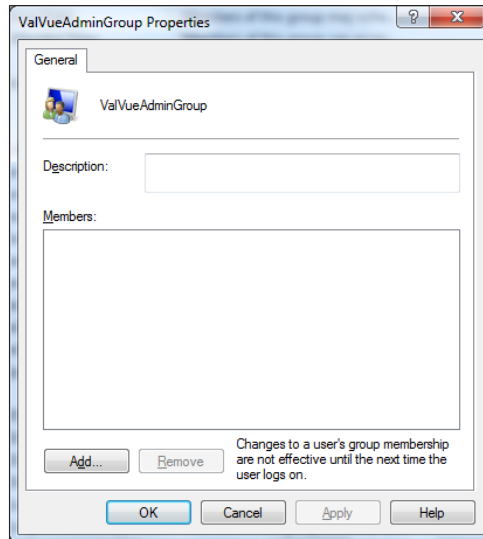

Figure 163 - Properties
3. Double-click **ValVueAdminGroup** and *Properties* appears (Figure 163).
5. Enter the windows login user name (use SSO, if a Baker Hughes employee). Click **Check Names**, if the user is located correctly, Click **OK**. Figure 163 reappears, click **OK**. Finish closing the *Control Panel* windows.